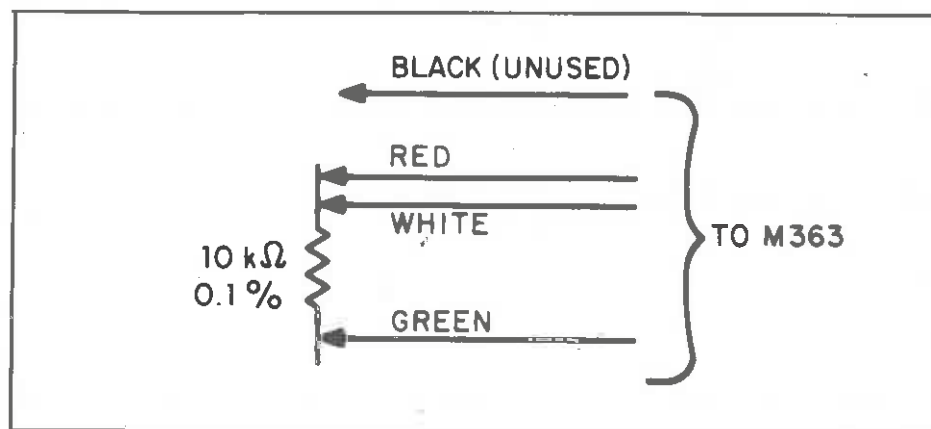

Figure II-2. CELL CABLE CONNECTIONS FOR INITITAL CHECKS
- (1) Plug in the power cord but do NOT turn on the instrument.
- (2) Connect the cell cable to the front-panel CELL connector.
- (3) Connect the alligator clips at the other end of the cell cable to the 10 k Ω resistor. The green wire connects to one end of the resistor. The red wire connects to the other end. Using the special adapter, this end should additionally be connected to the cable pin jack (white cable lead). The black wire is not used. Take care that the alligator clip at the end of the black wire doesn't short to any of the other circuit elements. Figure II-2 shows the required connections.
- (1) With the 10 k Ω load resistor still connected as shown in Figure II-2, set the following controls as indicated: